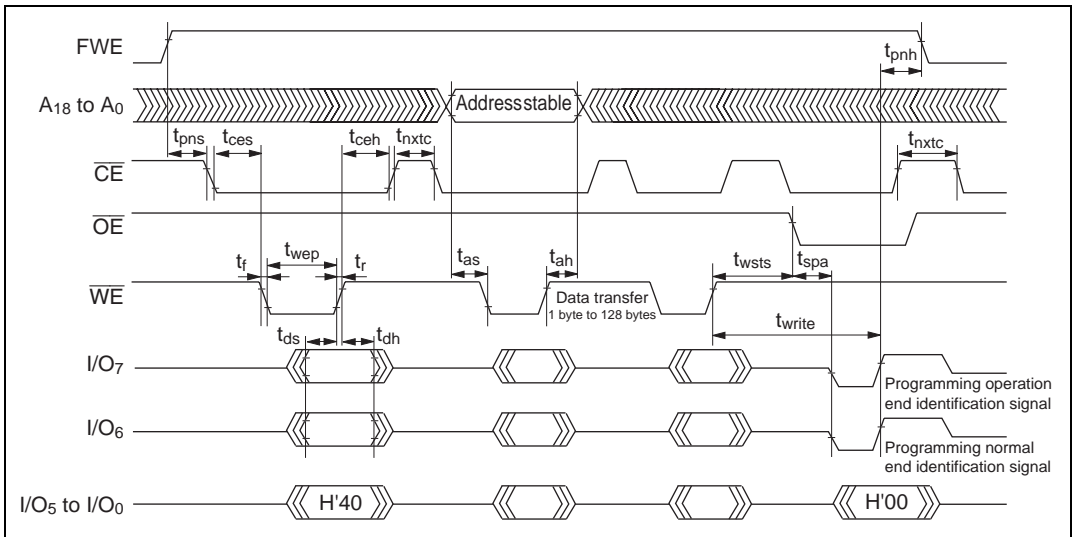

Figure 19.52 Auto-Program Mode Timing Waveforms
- Memory address transfer is executed in the second cycle (figure 19.52). Do not perform transfer later than the second cycle.